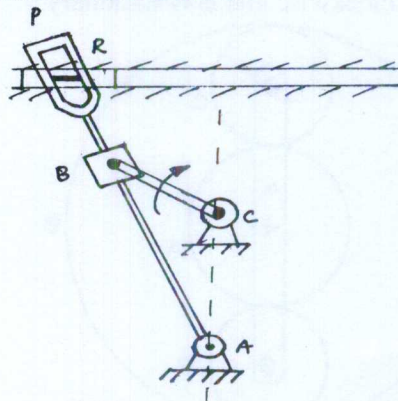

Fig.Q2(b)
- b. Fig.Q2(b) shows the layout of a quick return mechanism of the oscillating link type, for a special purpose machine. The driving crank BC is 30 mm long and time ratio of the working stroke to the return stroke is to be 1.7. If the length of the working stroke of R is 120 mm, determine the dimensions of AC and AP.